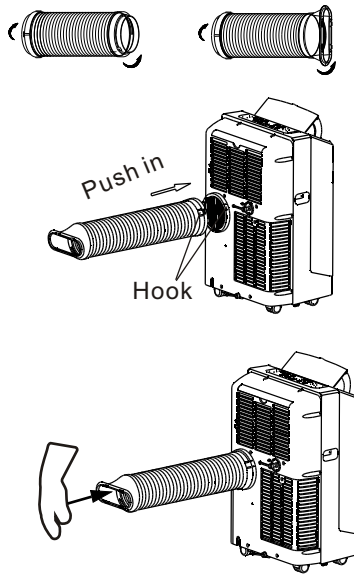

Figure 7 – Attaching Adaptor and Duct
1. Install the window exhaust onto the exhaust hose as shown in Fig.7. Refer to the previous pages for window kit installation.